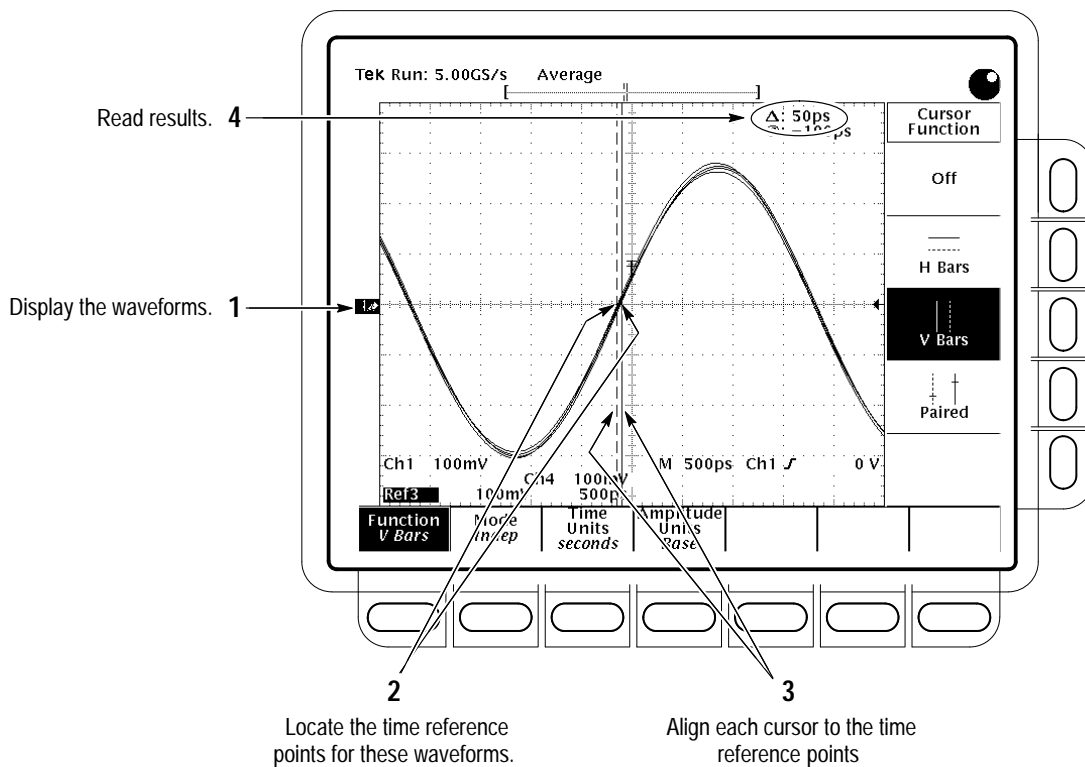

Figure 4–10: Measurement of Channel Delay – TDS 684A Shown
- Align one V bar cursor to the *time reference point* of the left-most waveform edge and the other cursor to the *time reference point* of the right-most waveform edge by rotating the General Purpose knob. (Press **SELECT** to switch between the two cursors.) See Figure 4–10 on page 4–40.